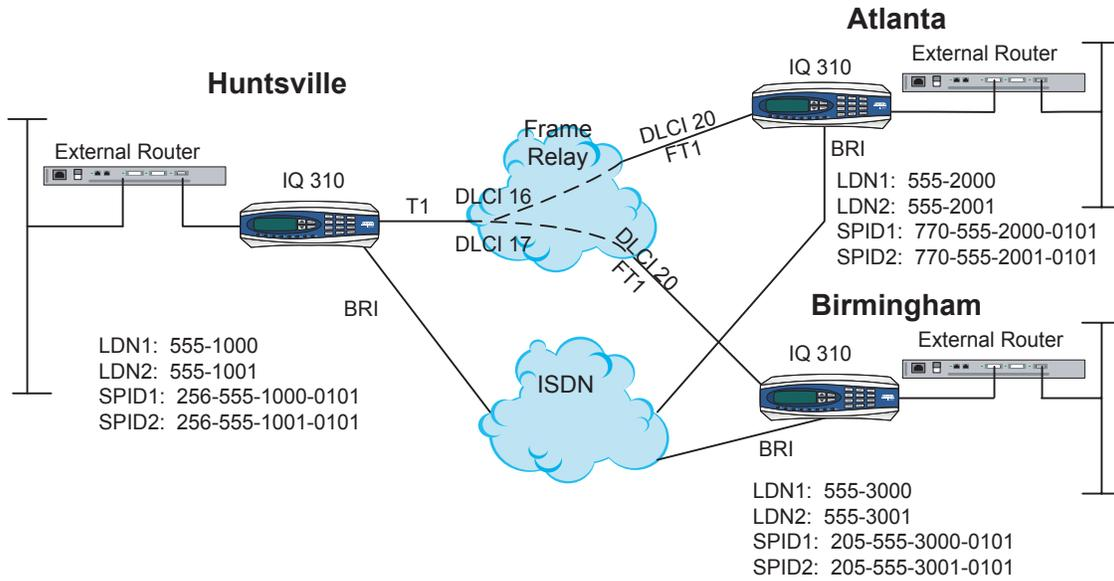

Figure 1. IQ 310 Frame Relay Dial Backup Example Network
Figure 1 on page 140 is a diagram of the Frame Relay example network used in this configuration guide. In this example, the host site is Huntsville. Two Permanent Virtual Circuits (PVCs) originate from Huntsville. One circuit is connected to Atlanta and the other to Birmingham. The two DLCIs used by the host site to communicate with the remotes are 16 and 17. Atlanta and Birmingham are the two remote sites. They both use DLCI 20 for communication with Huntsville. Please remember that DLCIs have local significance and are assigned by the Telephone Company (TELCO) when the Frame Relay network is built; therefore the DLCIs for your Frame Relay network will most likely be different from the ones used in this example.
The remaining parameters described in Figure 1 provide a description of the BRI lines that terminate into the three IQ 310s. The Telephone Company will provide you with the Local Directory Numbers (LDNs) and Service Profile Identifiers (SPIDs) for each of your BRI lines. In addition, you must know which type of Central Office (CO) switch is providing the ISDN service.